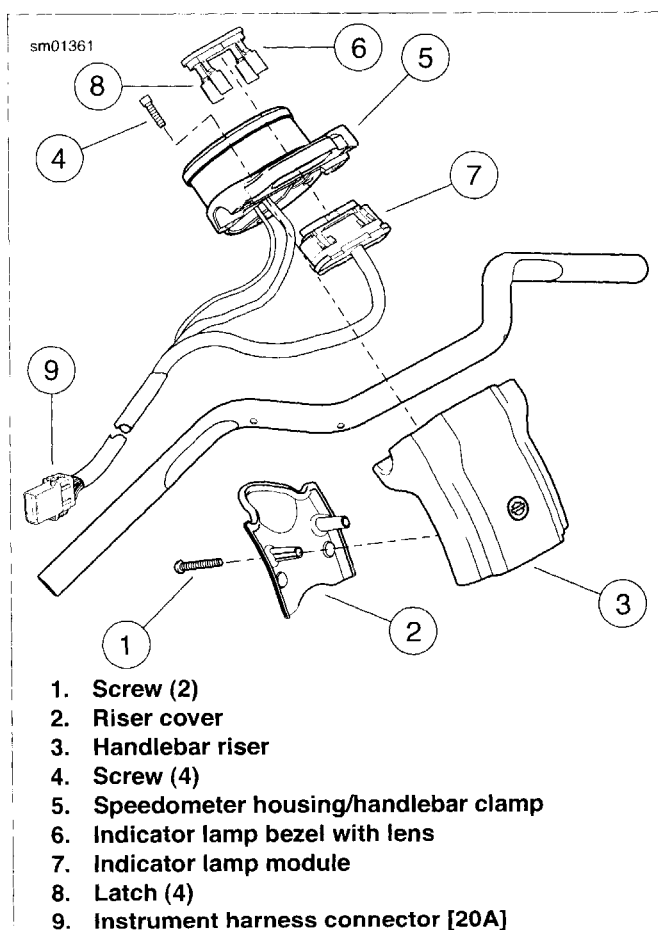

Figure 6-49. Indicator Lamps: XL 883C/XL 1200C
1. See Figure 6-49. Remove two screws (1) and riser cover (2) from behind handlebar riser (3).
2. Remove four screws (4) securing speedometer housing/handlebar clamp (5) to handlebar riser.
3. Carefully bend back four latches (8) on indicator lamp bezel (6) and remove indicator lamp module (7).
11. See Figure 6-49. Install indicator lamp module (7) into back of speedometer housing/handlebar clamp (5). Secure with four latches (8) on indicator lamp bezel (6).
12. Install speedometer housing/handlebar clamp onto handlebar riser (3) and secure with four screws (4):
13. Install riser cover (2) behind handlebar riser and secure with two screws (1). Make certain that handlebar control harnesses are not pinched between handlebar riser and riser cover. Tighten screws to 8-12 **in-lbs** (0.9-1.4 Nm).